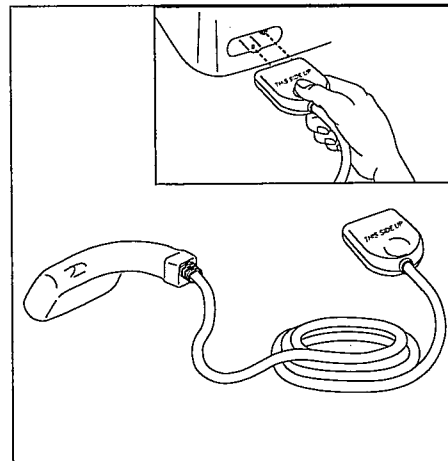

Figure 7
3. Locate Steamer Connector on the end of Connector Cable. Hold Connector so the words "This Side Up" are facing up. While holding Connector with thumb and forefinger, push Connector into Connector Outlet on front of Control Center (Figure 7). Be sure Connector is pushed completely into Outlet.